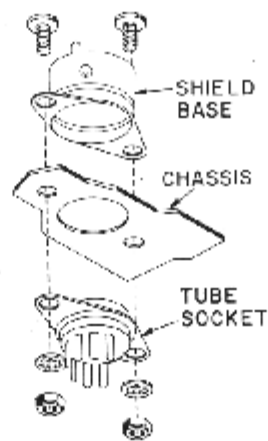

FIGURE 2
- ☑ V-1, 7-pin tube socket and tube shield base. Mount the shield base from the top of the chassis and the tube socket from inside the chassis as shown in Figure 2. Position the socket with the keyway (wide space between two pins) as shown in Figure 1. Use two 4-40 x 1/4" screws, lockwashers and nuts.